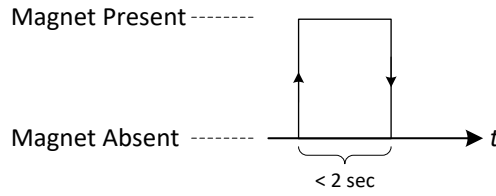

Figure 1-4: The Tracker Magnetic Forced UL Pattern
The magnetic pattern in this case is not user configurable, and involves attaching and taking away the magnet to and from the magnet sign at the bottom of the enclosure once, all in less than 2 sec, as shown in Figure 1-4. *It is important to note here that mistakenly holding the magnet attached to the module for more than 3 sec may trigger a device reset, as explained in item 1 above.*